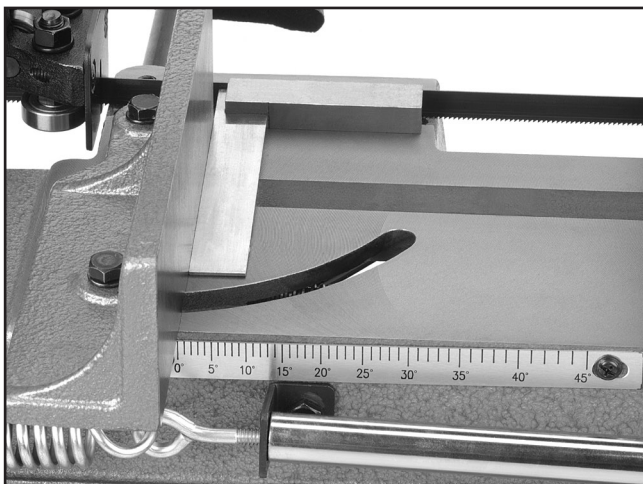

Figure 31. Squaring vise to blade.
2. Use the scale as a guide to set your angle or use a machinist square to square the blade to the vise as shown in **Figure 31**.